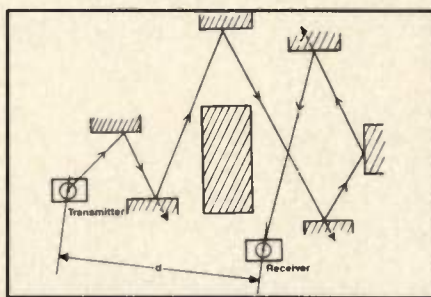

Figure 1. An illustration of electromagnetic wave propagation path and additional dispersion and dissipation for propagation in congested media.
a loss due to dispersion and dissipation of radio waves through walls, equipment, furniture, curtains, doors, ceilings, windows, wall-and-room decorations and people in buildings. This is illustrated symbolically in Figure 1. This situation resembles that of electrons drifting in solids or of photons interacting with the lattice of solid material (14). The electromagnetic wave dispersion and dissipation along the propagation path are random and non-periodic. Therefore, these are handled statistically. The median power term, F , due to the dispersion and dissipation loss for the propagation distance d , is assumed to be: